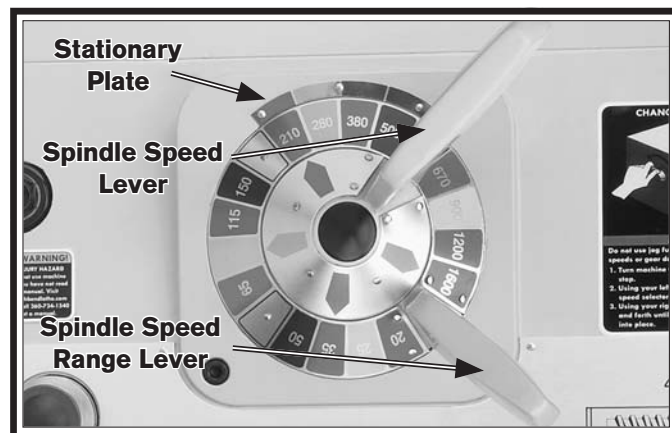

Figure 26. Spindle speed set at 210 RPM.
6. Move the spindle speed range lever (**Figure 26**) so that the colors of the 210–500 RPM range align with the colors on the stationary plate above the hub, then move the spindle speed lever so that the green arrow on the inner hub aligns with the green bar of the 210 RPM label.